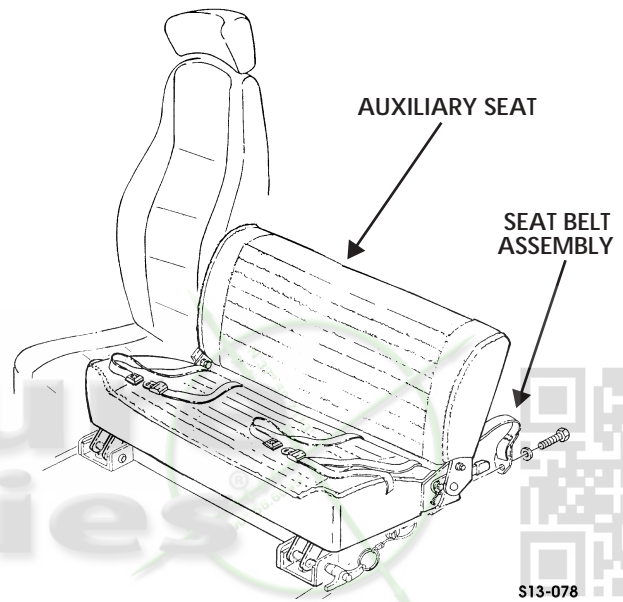

Figure 13-103: Auxiliary Seat Belt
2. Remove four capscrews, washers, and two auxiliary seat belt assemblies from auxiliary seat (Figure 13-103).
1. Install two auxiliary seat belt assemblies on auxiliary seat with four washers and capscrews (Figure 13-103).